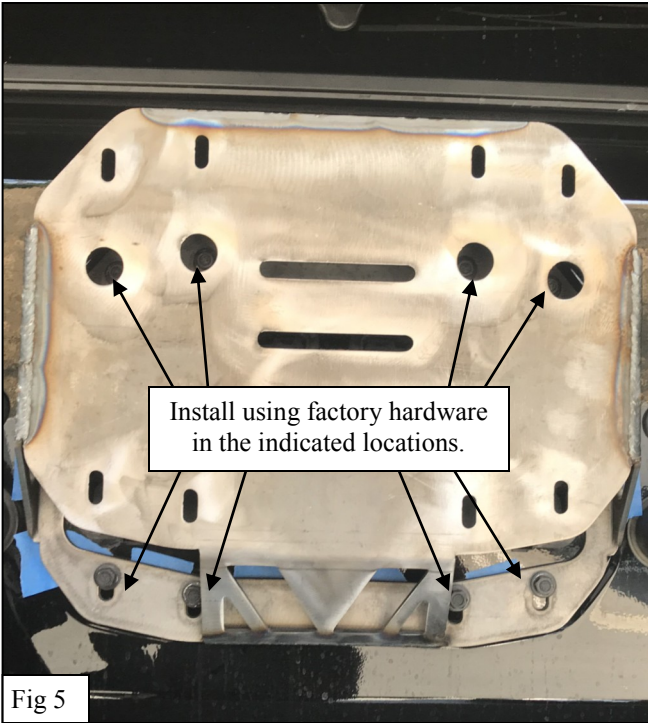

Fig 5
8. Install the Spare Tire Relocator (1) onto the tailgate using the OEM Hardware in the same location as the OEM tire carrier. See **Figure 5**.